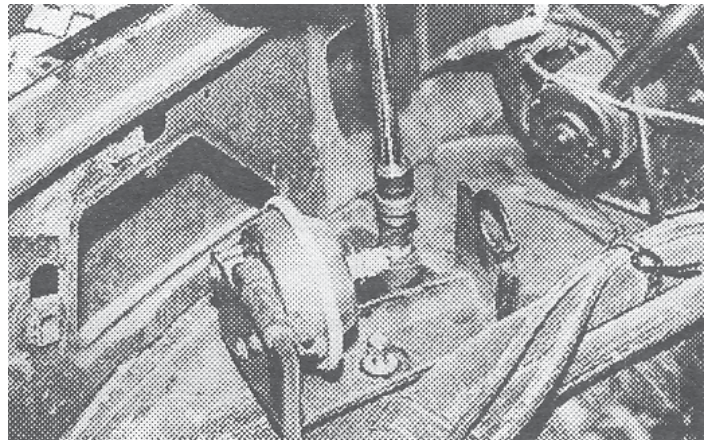

Fig. 51A
50. Vacuum actuator relocation: on early models, move actuator from side of fender to inner fender. Using OE bracket as a template, drill two 5/16" holes into inner fender. Install 5/16" x 1" bolts, washers, and nuts supplied. Tighten to specification. **Fig. 51A.** Relocate cable over heater hoses. Reinstall cable and clip. Ensure relocation of actuator provides adequate slack in cable.